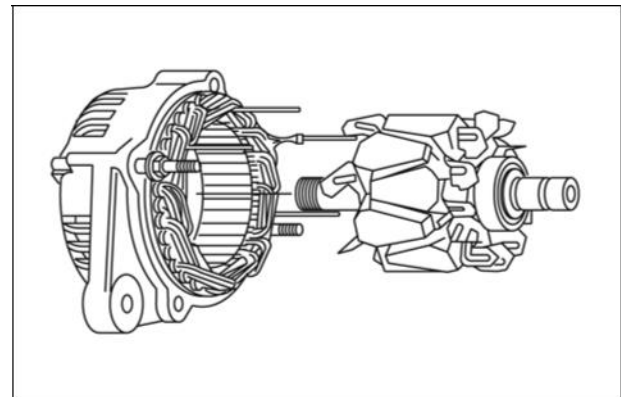

Figure 35
4. Assemble brush end housing to drive end housing with reference marks aligned (Figure 35).